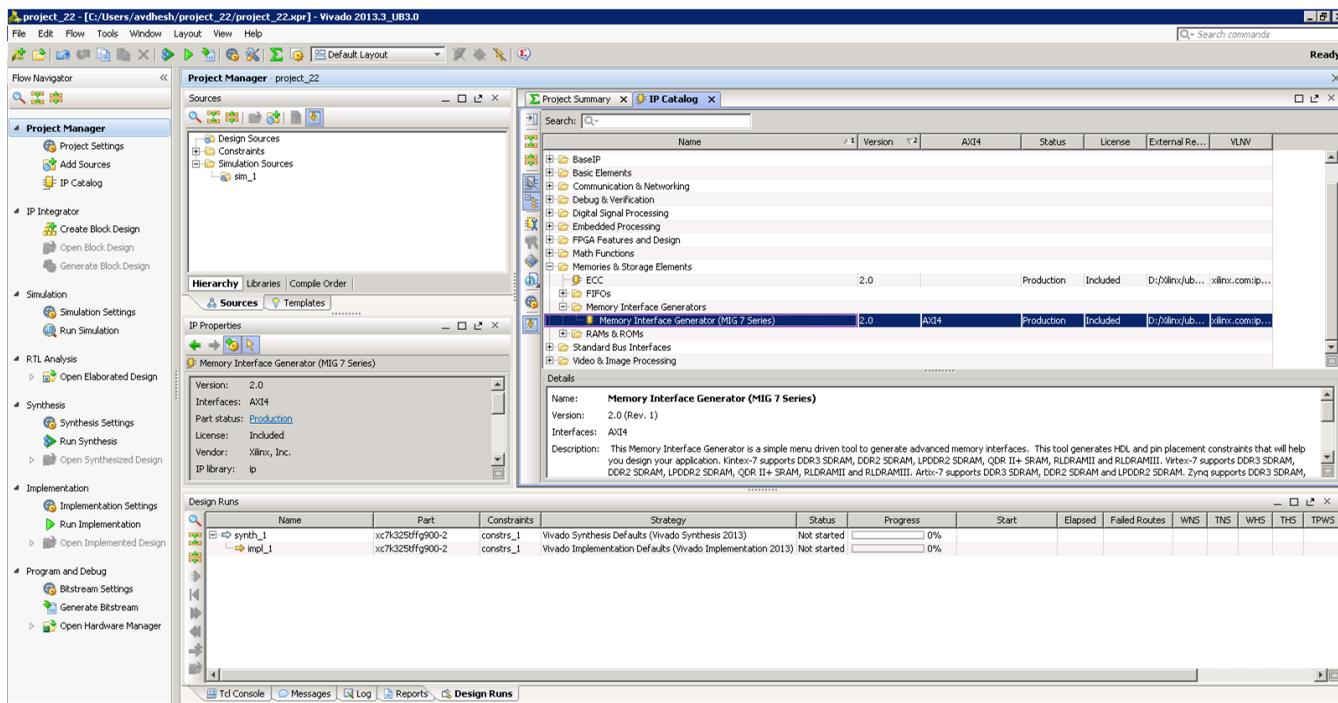

Figure 5-12: IP Catalog Window – Memory Interface Generator
11. Click **IP Catalog** on the **Project Manager** window to open the IP catalog window. The Vivado IP catalog window appears on the right side panel (see Figure 5-12).
12. The MIG tool exists in the **Memories & Storage Elements > Memory Interface Generators** section of the IP catalog window (Figure 5-12) or you can search from the Search tool bar for the string “MIG.”